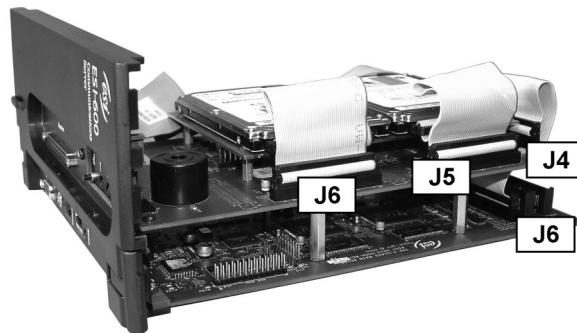

Fig. M3-11: Completed M3 installation (ESI-600 main board and faceplate shown)
4. Connect the hard drive cables from each drive to the respective connectors on the M3 board (J5 and J6). To prevent the hard drive cables from interfering with inserting the main board, fold the cables in toward the hard drives (see **Fig. M3-11**, below).
7. Confirm that the installation matches the picture in **Fig. M3-11**, below. If it does, you’re done, and you can install the main board back into the system.
Note: The photo in **Fig. M3-11** is intended only as a representation. Your M3 installation will look somewhat different, depending on the ESI Communications Server.